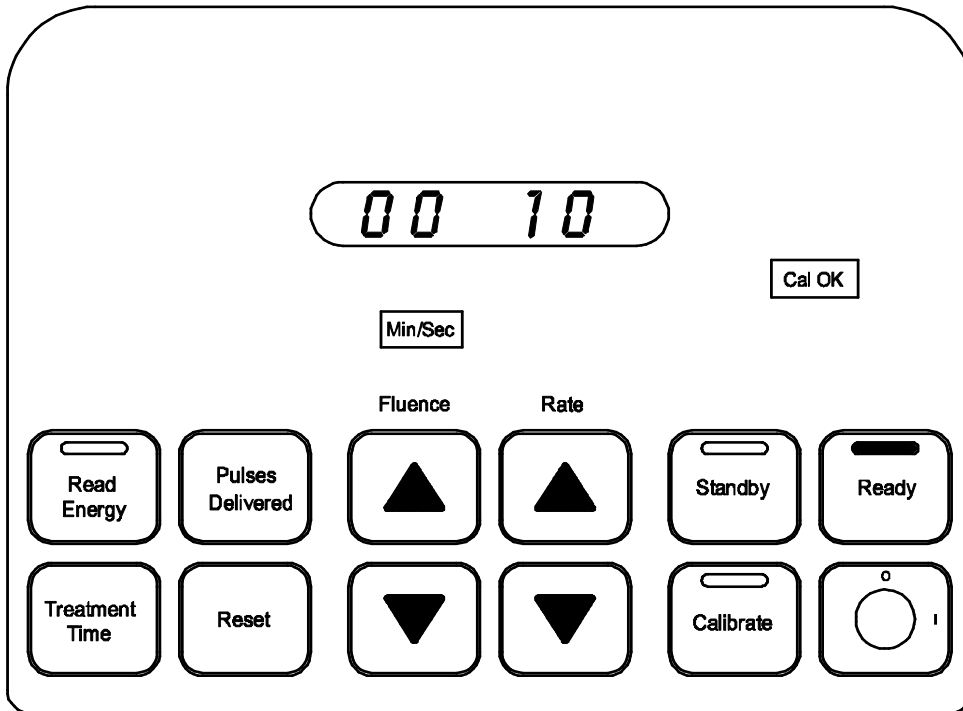

Figure 16
7. While the Excimer Laser System is lasing, the total treatment time is stored. To retrieve the treatment time, stop lasing and depress the **Treatment Time** button. The **Min/Sec** indicator light illuminates and the total treatment time is visible in the display window. (Figure 16)